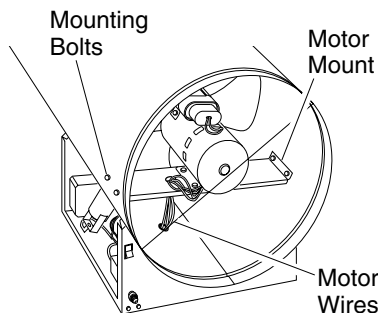

Figure 12 - Location of Fan and Motor
5. Reach into rear of heater shell. Carefully pull motor wires through hole in bottom of shell (see Figure 12). **Note:** Pull wires through hole one at a time.
6. Remove nuts and mounting bolts holding motor mount to shell. Use 3/8" nut-driver and 7/16" wrench (see Figure 12).
20. Route motor wires through hole in bottom of shell (see Figure 12).